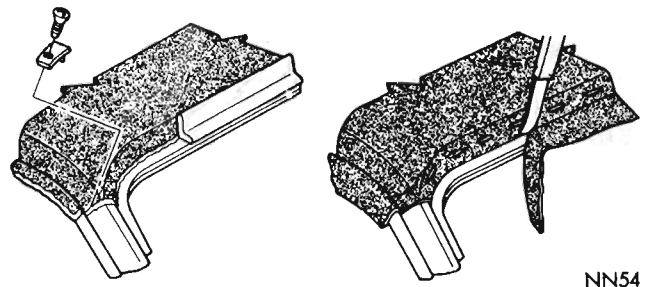
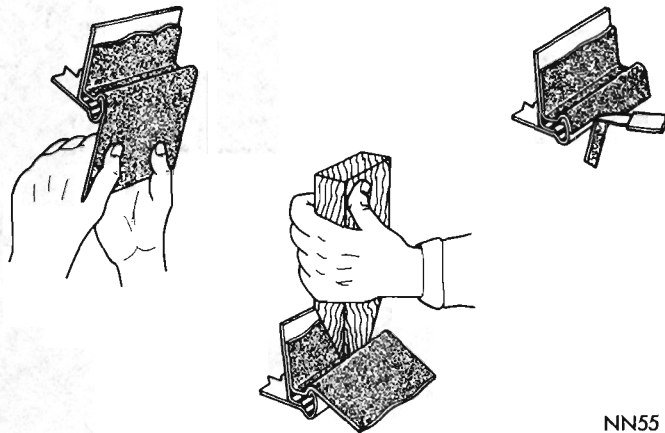
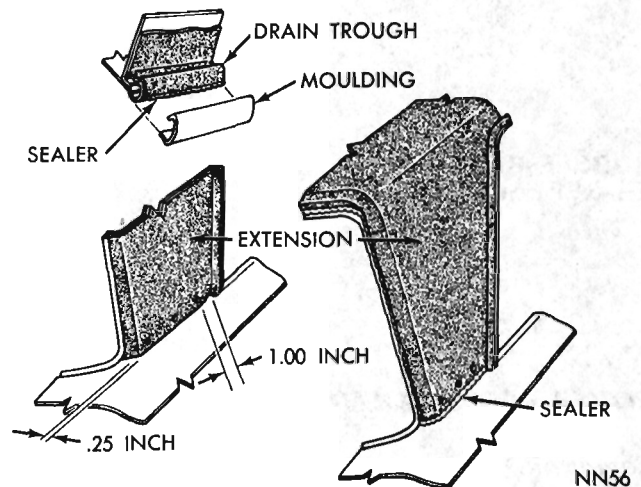

FIG. 4 Trimming And Sealing Cover At Windows
FIG. 5 Positioning Cover At Sides
FIG. 6 Sealing Cover At Sides
(10) Position cover to roof panel extension making certain all wrinkles are removed.
(11) Trim fabric at base of windshield reveal, halfway between upper and lower edges of pillar moulding (Fig. 4).
(12) Trim fabric at base of rear window reveal.
(13) Using a dull pointed tool, press fabric into drain trough to achieve maximum contact of roof cover material to drain trough (Fig. 5).
(14) Grasp outboard edge of cover and while pulling material outward and down, use upper edge of drain trough flange as a breakover for draping material onto outboard drain trough flange face (Fig. 5). **Care must be taken to avoid pulling loose the cover material** applied to base of drain trough.
(15) Press material against drain trough flange face for full length of outboard sides of roof cover.
(16) Trim excess material hanging below drain trough flange about 1/8 inch above lower edge of flange (Fig. 5).
(17) Locate and punch holes in cover at roof extension belt line.
(18) Trim cover on a line 1/4 inch below belt line moulding holes and curving upward to meet drain trough.
(19) Apply a bead of sealer to trimmed edge of cover at roof panel and smooth out to form a seal (Fig. 6).